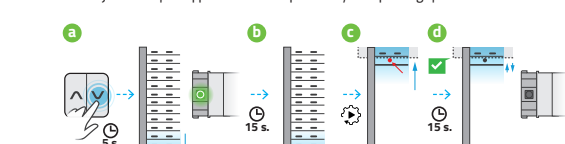

Fig. 10.5
- Switch on and off the Senso tubular motor's power supply twice (fig. 10.5) – the tubular motor will make some short UP/DOWN moves and the diode will light up with the green light - Fig. 10.4b.